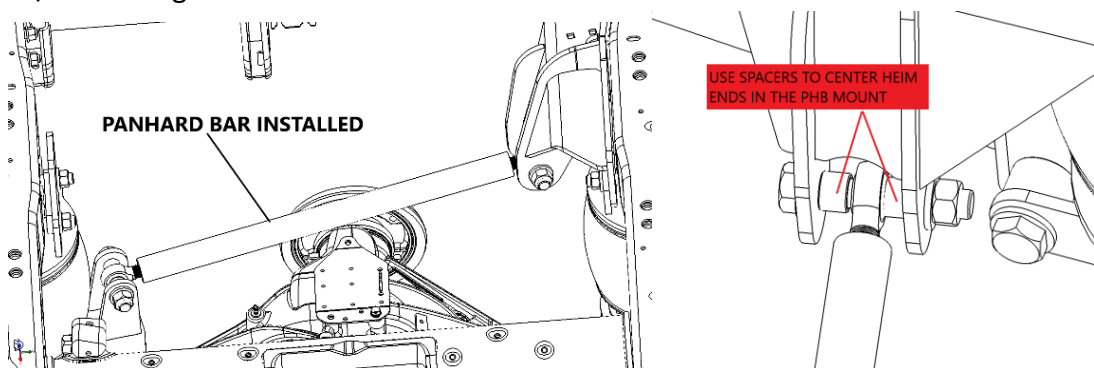

Figure 27
- 16:** Locate the track bar/ Panhard bar P/N 10006568. Locate the 4 Panhard Bar (PHB) spacers P/N 10006656. It fastens to the upper and lower Panhard bar mounts with $\frac{3}{4}$ " x 4 $\frac{1}{2}$ " bolts. Use the spacers to center the Heim ends in the mounts. Torque bolts to 200 ft./lbs. See figure 27.